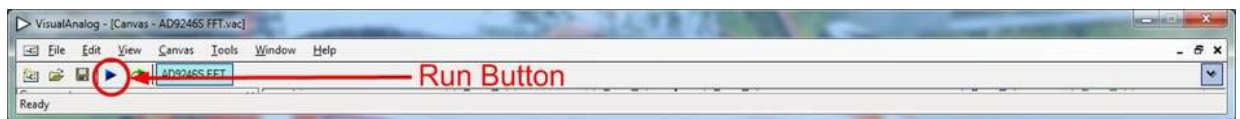

Figure 9. Run Button (Encircled in Red) in VisualAnalog Toolbar, Collapsed Display
- Click the **Run** button in the **VisualAnalog** toolbar (see Figure 9).